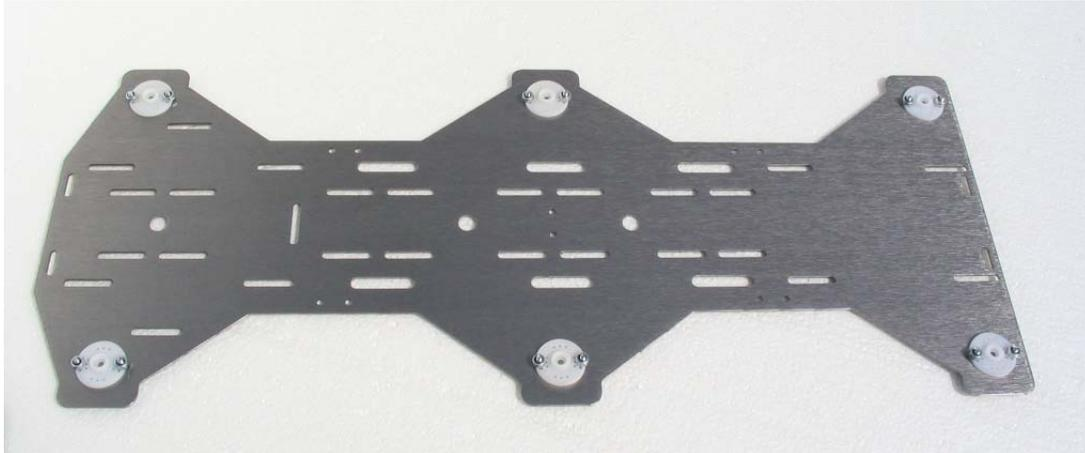

Figure 29: Completed Upper Deck
3. Repeat step #1 and #2 for all of the leg decks. When completed, the upper deck should look like Figure 29.